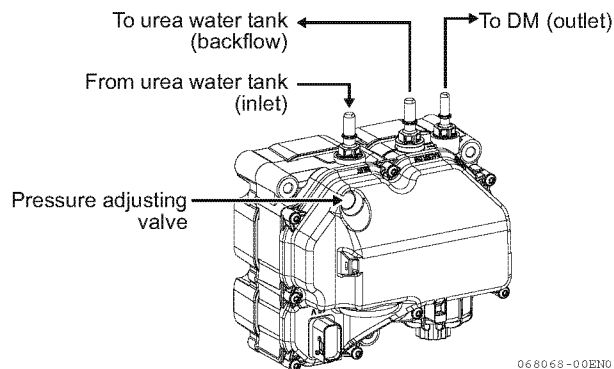

Fig.25-7
The SM (Supply Module) applies a pressure of 9 bars to the urea water sucked out from the urea water tank, and pumps it to the DM (Dosing Module). (Fig.25-7)
- The SM is equipped with the pressure adjusting valve (Fig.25-7). Make sure that there are no paints or dirt on the valve that will cause clogging.
When storing the machine for a long period of time, if the SM membrane dries, the sealing property deteriorates, and the SM cannot suck urea water. As a result, the engine may not be started. In this case, fill urea water from the SM inlet (Inlet, Fig.25-7), then the engine may be started.